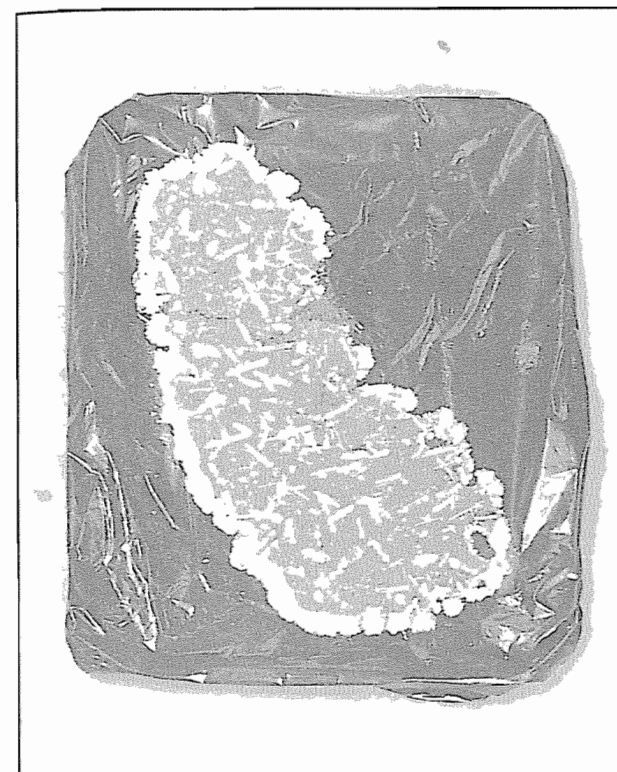

Figure 6-19. The extracted potassium nitrate crystals are dried in the sun.
- Place the cookie sheet on a level surface outdoors, and cover it with the sheet of plastic. Pour the filtered solution from step 3 onto the plastic, and let it to dry in the sun (Figure 6-19). This will get the nitrate *almost* dry, but not quite.